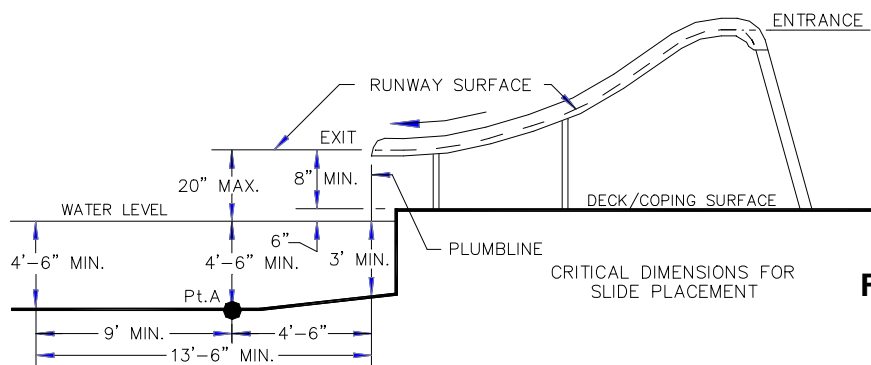

**Figure 25**
- 3) Using the four holes on each flange as a template (see Figure 25 below), drill four 5/16" holes per flange 1-7/8" deep. CAUTION: Do not drill holes larger than 5/16". Maintain drill hole straight and perpendicular for proper holding strength of anchor stud.
8) Drill a 1/4" diameter hole into the slide leg through the 3/8" diameter hole in the flange. Insert the (#30) 3/8" O.D. Aluminum Bushing into the hole in the deck flange and push in until it contacts the slide leg. Now insert the (#27) 1/4"-20UNC x 2-3/4" Hex Head Cap Screws and (#25) 1/4" x 5/8" Flat Washers through the bushing and in about a 1/2" into the hole in the slide leg. With the cap screw in position, drill a 1/4" hole into the slide leg through the 5/16" diameter hole in the opposite side of the deck flange. Take care not to run the drill bit into the 1/4" bolt. Push the cap screw completely through the slide leg. Install the (#25) 1/4" x 5/8" Flat Washers and (#26) 1/4"-20UNC Hex Lock Nuts (see Figure 25).